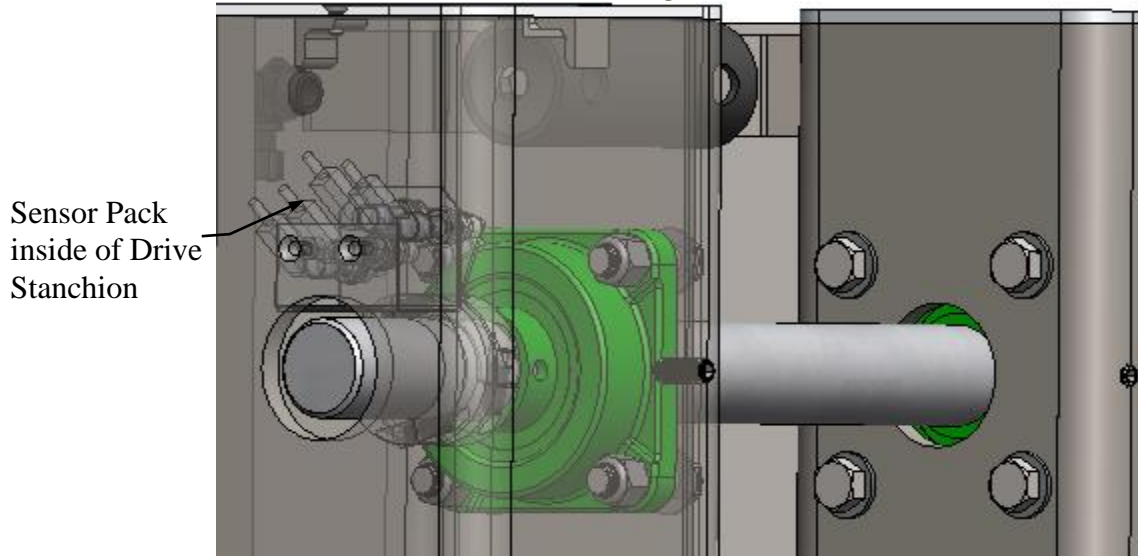

Figure 16 - Limit Switch Sensor Pack
- 3.3.8.1.1. The limit switch should be installed within the drive stanchion. The switch is meant to attach to the hinge pin and contains two (2) flags that interact with four (4) sensors. **See *Figure 16 - Limit Switch Sensor Pack***